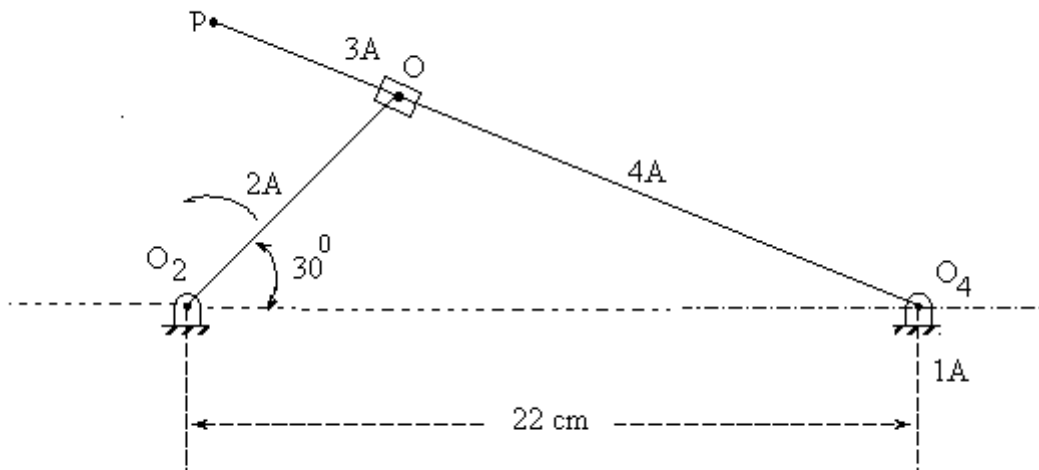

Figure 1:
3. An inversion of a slide crank mechanism shown in Figure 1. For angular velocity of 300rpm. For the crank O_2Q in the counter – clockwise sense, determine: